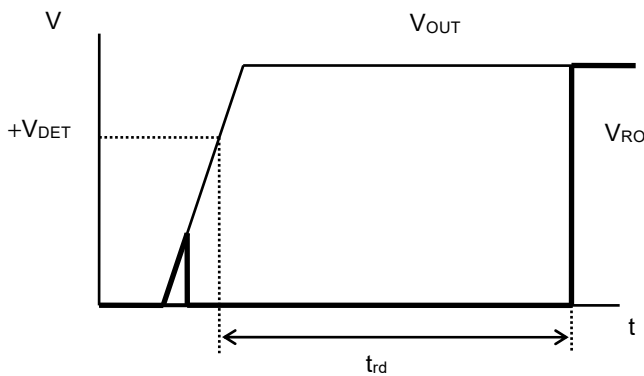

Figure 4 Release Delay Time
*3. The time from when V_{OUT} exceeds $+V_{DET}$ to when the RO pin output inverts (Refer to **Figure 4**). This value changes according to the release delay time adjustment capacitor (C_{DLY}).